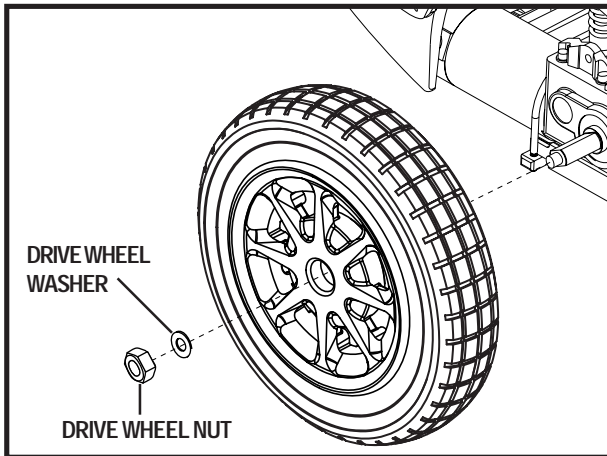

Figure 31. Drive Wheel Removal
4. Remove the drive wheel nut and washer from the axle. See figure 31.